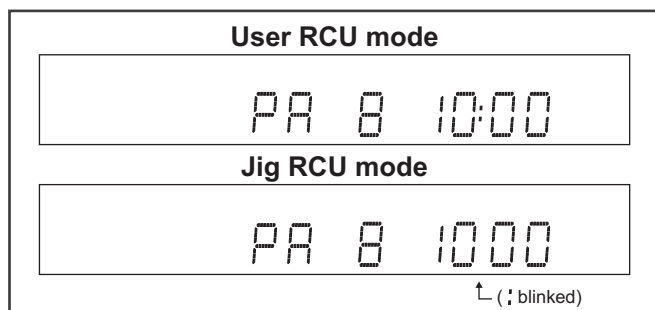

Fig.2-3a User/Jig RCU mode
- (1) Turn on the power.
- (2) Press the "VCR/DVD" button repeatedly on the unit so that the DVD lamp lights up on the unit.
- (3) Press the following remote keys continuously within 2 seconds "SET UP" → "2" → "8" → "ENTER". When the VCR is set to the Jig RCU mode, the symbols (" : ") in the time display of the FDP are blinked. (Refer to Fig.2-3a User/Jig RCU mode)